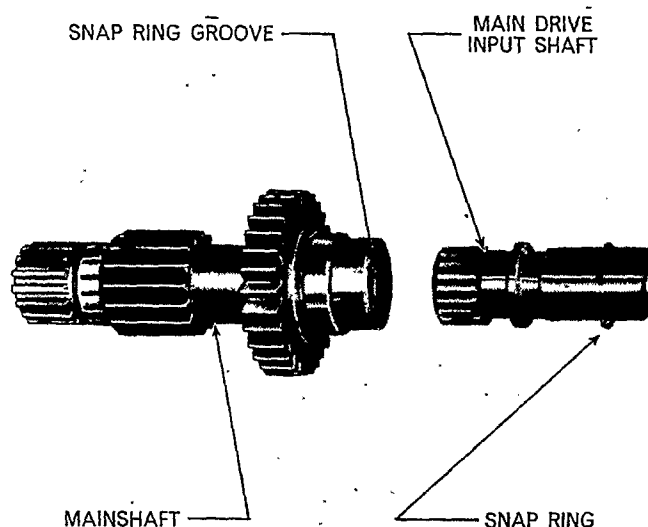

Figure 60
6. Remove the snap ring retaining the main drive input shaft to the mainshaft, Figure 60, and pull the shaft out forwards.
2. Push the main drive input shaft into the forward end of the mainshaft and secure with the snap ring, Figure 60.